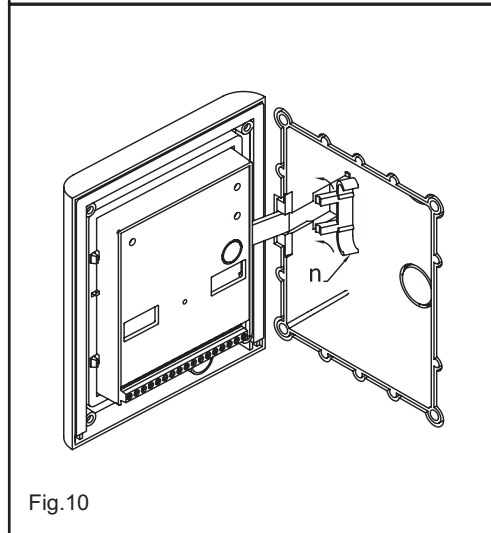

Fig.10
2. Continue from step 3 of surface mounting, but at step 6 hook the hinge lock **n** as shown on figure 10.